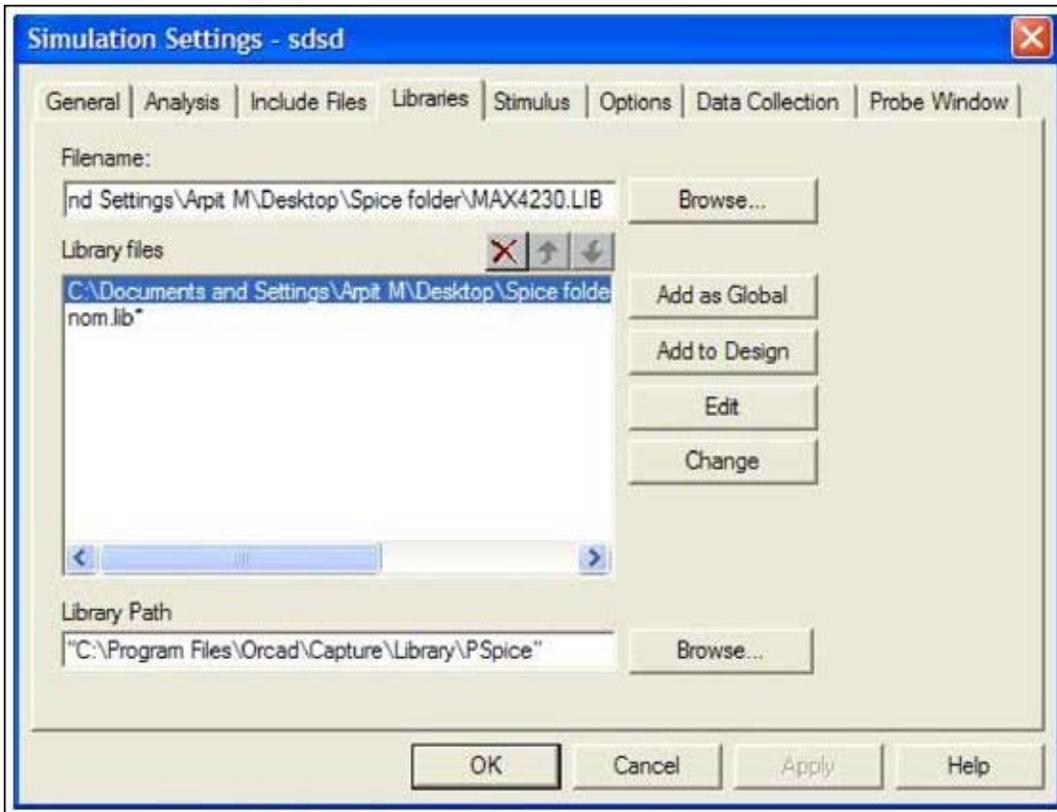

Figure 5. This Simulation Settings screen is where a symbol can be edited.
- When editing a symbol, make sure that the MAX4230.LIB file is included in the simulation settings. Go to the simulation settings and browse the MAX4230.LIB file. Click the "Add to Design" button. See Figure 5.